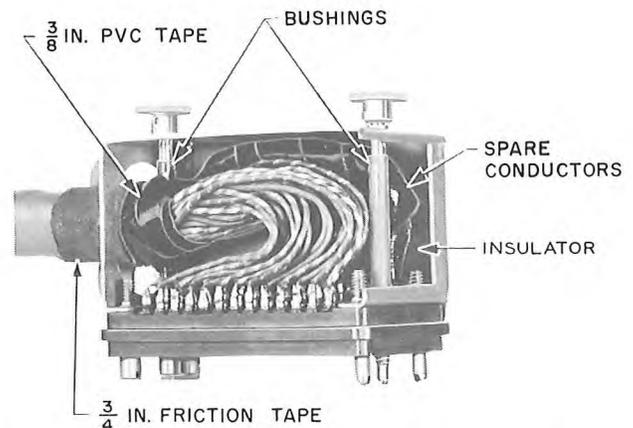

Fig. 48 — Assembled Miniature Connector, Cutaway View
15.05 When all pairs are terminated, assemble the miniature connector as follows (see Fig. 48) :